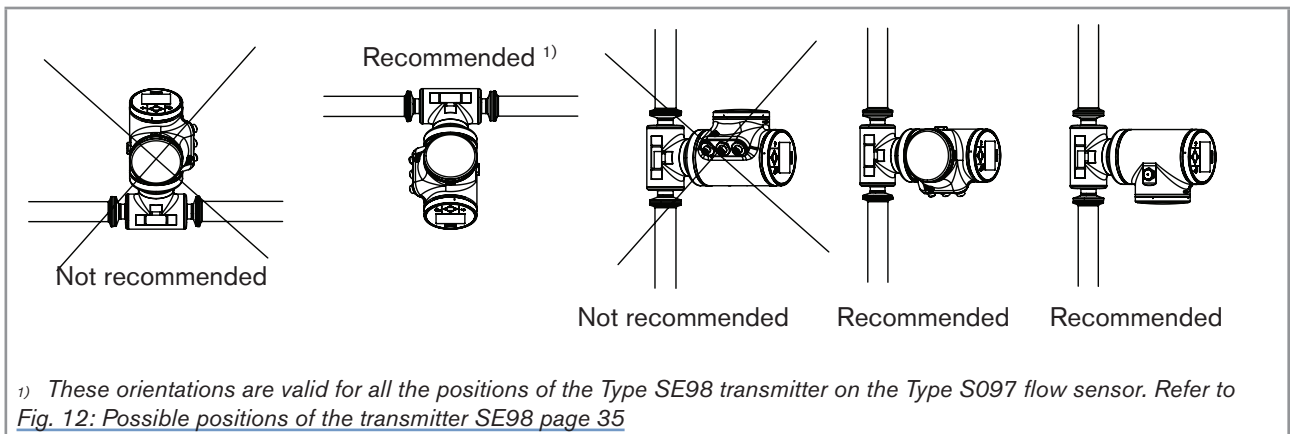

Fig. 16: Orientation of an Ethernet version of the device to permit the heat dissipation
- To make sure the internal temperature of the transmitter does not exceed the authorized maximum value, install an Ethernet version of the device as recommended in Fig. 16.